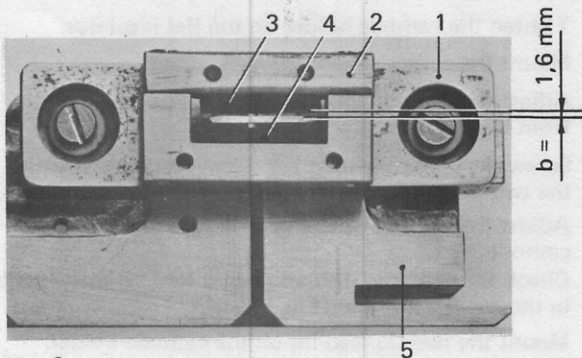

Fig. 8
- Check the cathode, it should be located symmetrically in the gap  $b = 1.6$  mm (Fig. 8).